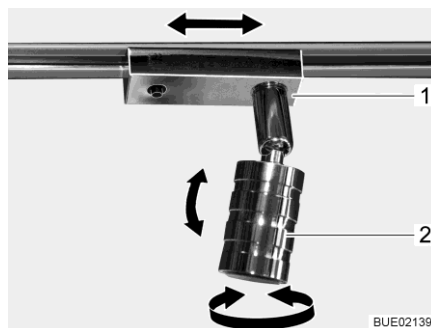

Fig. 83 Spotlight
- Grasp the housing (Fig. 83,2) and turn it.
- Grip socket (Fig. 83,1) and turn by approx. 45°.
- Grip socket (Fig. 83,1) and turn by 90°.